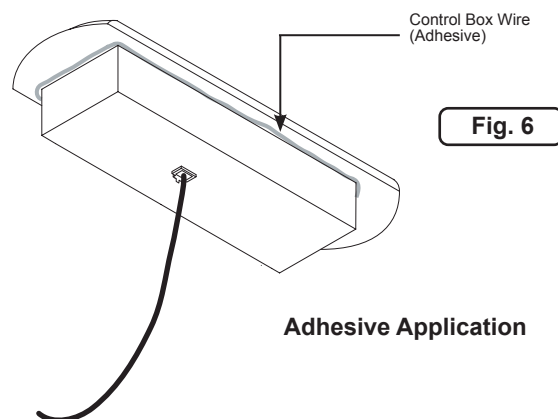

Fig. 6
2. Sparingly apply adhesive around the base of the control panel (Figure 6).